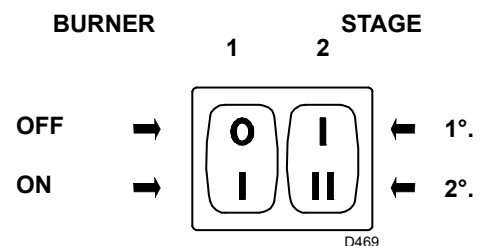
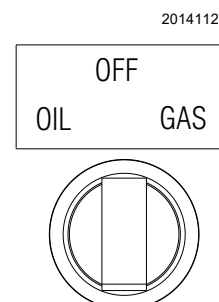

Fig. 33
Fig. 34
Keep the burner operating at 1st stage by setting the switch 2)(Fig. 33) to the 1st stage position. The fan damper can be adjusted by operating the orange level of the servomotor ("Servomotor adjustment" on page 33).
Turn switch 2 ) (Fig. 33) to the 2nd stage position. The fan damper can be adjusted by operating the red level of the servomotor .("Servomotor adjustment" on page 33).
Start the burner by closing the remote controls, with the switch 1)(Fig. 33) in the "ON" position and with the fuel selector switch set to "OIL" (Fig. 34).
The pump can be considered to be primed when the light oil starts coming out of the screw 3)(Fig. 23 on page 24). Stop the burner: set switch 1)(Fig. 33) to "OFF" and tighten the screw 3).
- switch 1)(Fig. 33 on page 30) in "**BURNER ON**" position;
- switch 2)(Fig. 33 on page 30) in "**1st STAGE**" position;
Turn switch 2)(Fig. 33) to the 2nd stage position: the servomotor will open the air damper on the value previously set for the light oil and will control the opening of the 2nd stage VR2 gas valve.
Turn switch 2)(Fig. 33) to the 1st stage position: the servomotor will close the air damper on the value previously set for the light oil and will control the opening of the 1st stage VR1 gas valve.